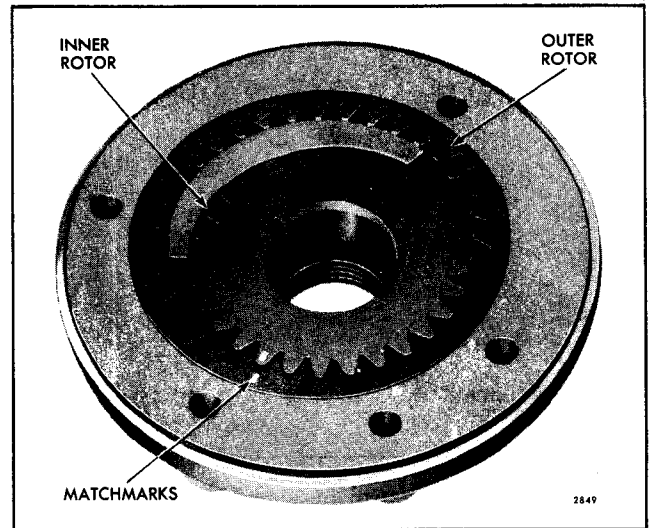

Fig. 21 · Location of Matchmarks on Inner and Outer Oil Pump Rotors (Gears)
- b. Matchmark the teeth of the inner and outer rotors (gears) where they mesh as shown in Fig. 21 so they may be reassembled in the same position.